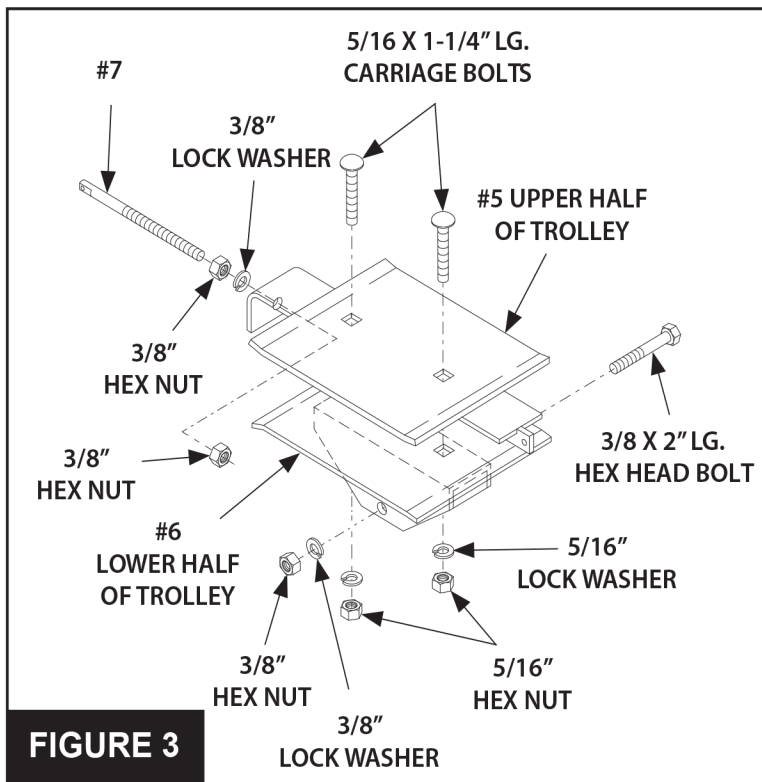

FIGURE 3
1. Assemble Upper Half of Trolley (#5) to Lower Half of Trolley (#6) using two 5/16 x 1-1/4 carriage bolts, two 5/16 Lock Washers and two 5/16 Hex Nuts as shown in **Figure 3**.
2. Install 3/8 Chain Take-up Bolt (#7) into Trolley Assembly using one 3/8 Lock Washer and two 3/8 Hex Nuts as shown in **Figure 3**. **DO NOT TIGHTEN NUTS!**